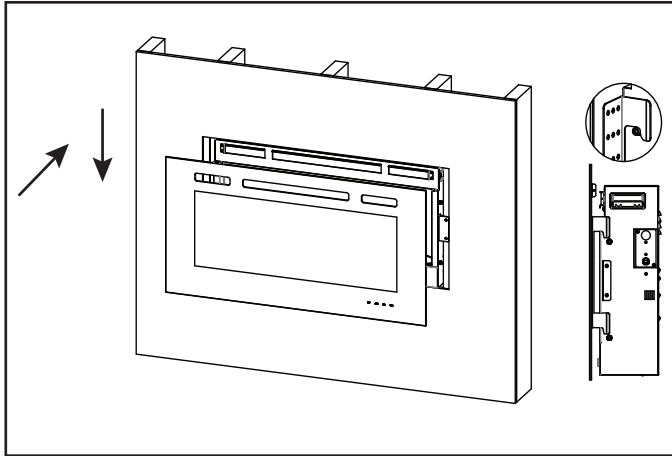

Figure 2. Glass Front Removal/Installation
3. Install front panel. Locate the J-hooks on the back side of the glass on the four rivnuts on the appliance opening. Engage the rivnuts. See Figure 2.